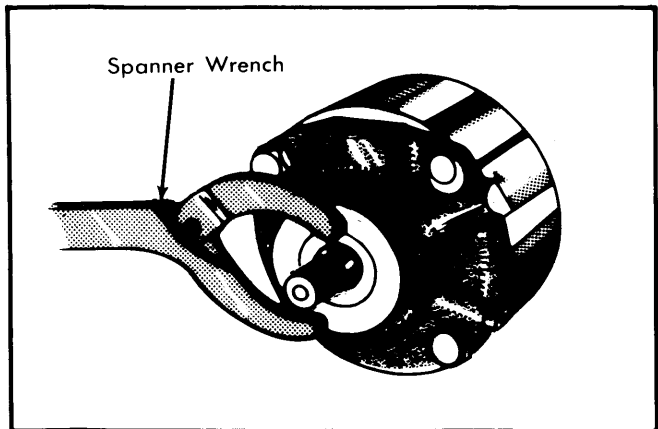

Fig. 3 Removing Bearing Insert from Bearing Cap
8) Remove bearing insert from bearing cap using spanner wrench. See Fig. 3. Remove steering worm and washer from bearing cap. Remove roller cage from steering worm, along with seal and "O" rings.